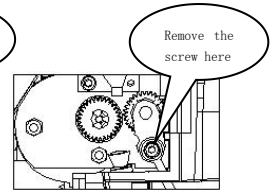

Fig. 6
6). Remove the hex screws of release lever from the plate by hex wrench. Then take out the release lever in the direction of arrow (Fig. 6)